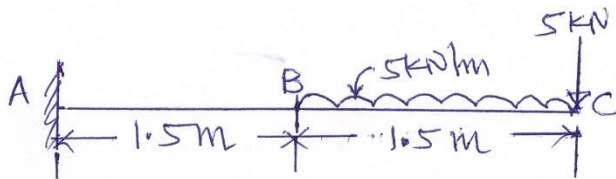

fig. 5
- (c) Draw shear force diagram for the beam shown in fig.5. Show calculations of shear force at important points. **04**
- (c) Draw bending moment diagram for the beam shown in fig.5. Show calculations of bending moment at important points. 04